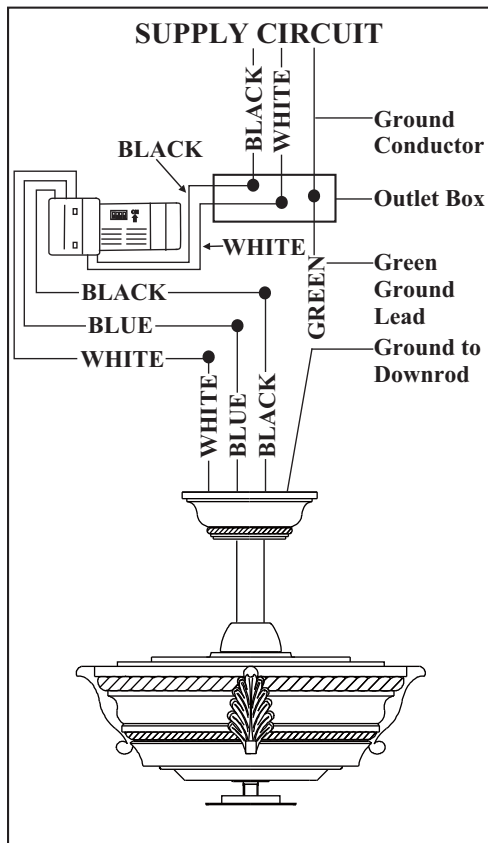

Figure 14
2. (Fig. 14) Motor to receiver electrical connections: Connect the black wire from the fan to black wire marked "TO MOTOR L". Connect the white wire from the fan to the white wire marked "TO MOTOR N" from the receiver. Connect the blue wire from the fan to the blue wire marked "For Light" from the
3. (Figure 14) Receiver to house supply wires electrical connections: Connect the black (hot) wire from the ceiling to the black wire marked "AC in L" from the receiver. Connect the white (neutral) wire from the ceiling to the white wire marked "AC in N" from the receiver. Secure the wire connections with the plastic wire connecting nuts provided.
4. (Figure 14) If your outlet box has a ground wire (green or bare copper) connect it to the fan ground wires; otherwise connect the hanger bracket ground wire to the hanger bracket. Secure the wire connection with a plastic nut provided. After connecting the wires spread them apart so that the green and white wires are on one side of the outlet box and black and blue wires are on the other side. Carefully tuck the wire connections up into the outlet box.